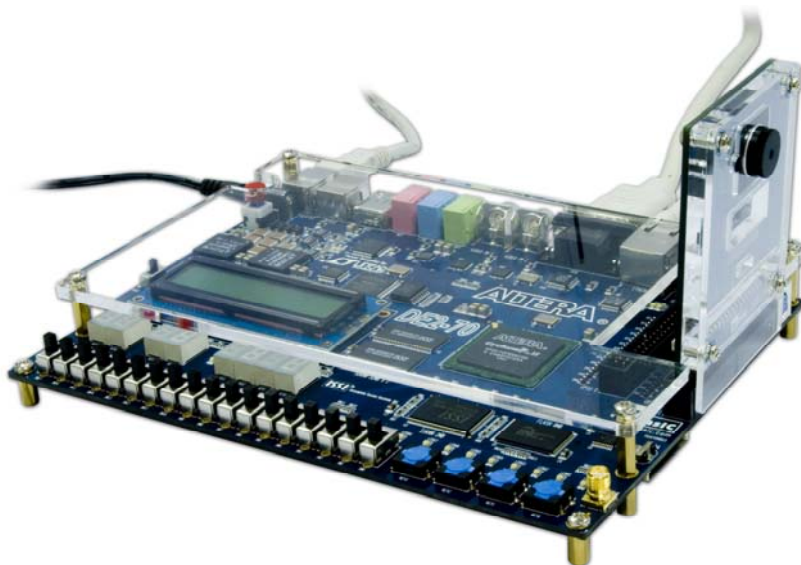

Figure 1.2 Connect the D5M to DE2-70 board's expansion port (**outermost port**).
1. Connect the D5M to your DE2-70 board as shown in Figure 1.2.